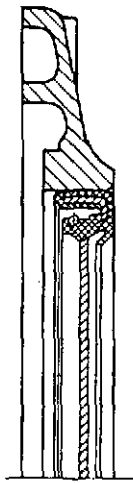

Fig. 2
- Using installation plate 6.206.0.690.005.4 with drift press, force seal fully home (Figs. 2 and 4).